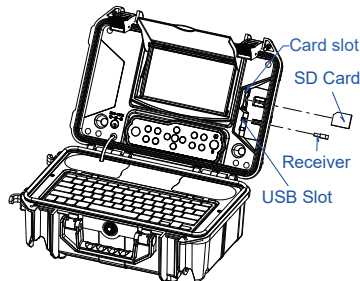

Figure 12. Install SD Card
5. Install SD card (Figure 12.)